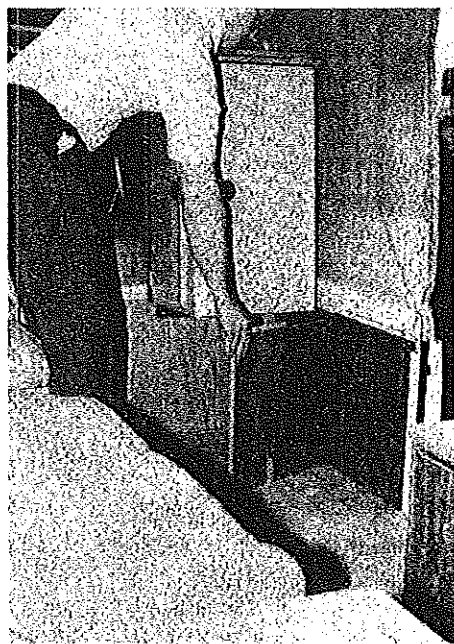

FIGURE 18
23. While holding the closet in the vertical position, open the wooden rest from its storage position against the interior trailer wall and slide it under the closet. (See Figure 18)